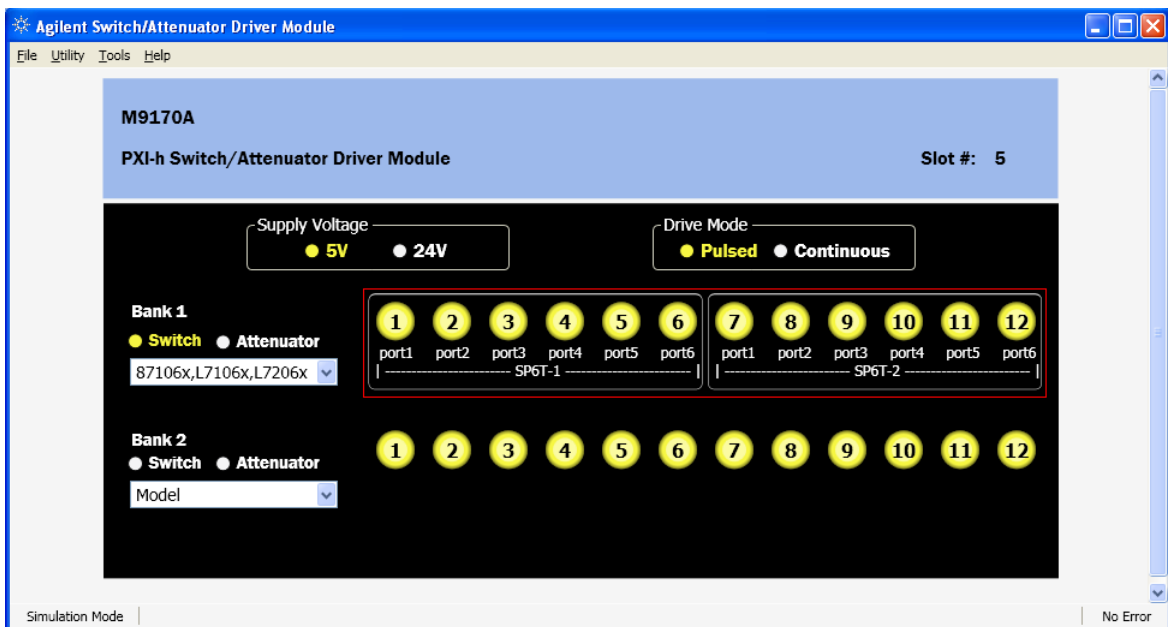

Figure 1-3 M9170A SFP verification example for switch
- To verify that the M9170A is working properly, connect a 20-pin connector interface cable assembly (for example, a 20-pin-to-2x16-pin interface cable assembly), and then choose the switch model accordingly. Click the switch port as shown in Figure 1-3. You will hear a “click” sound from the switch.